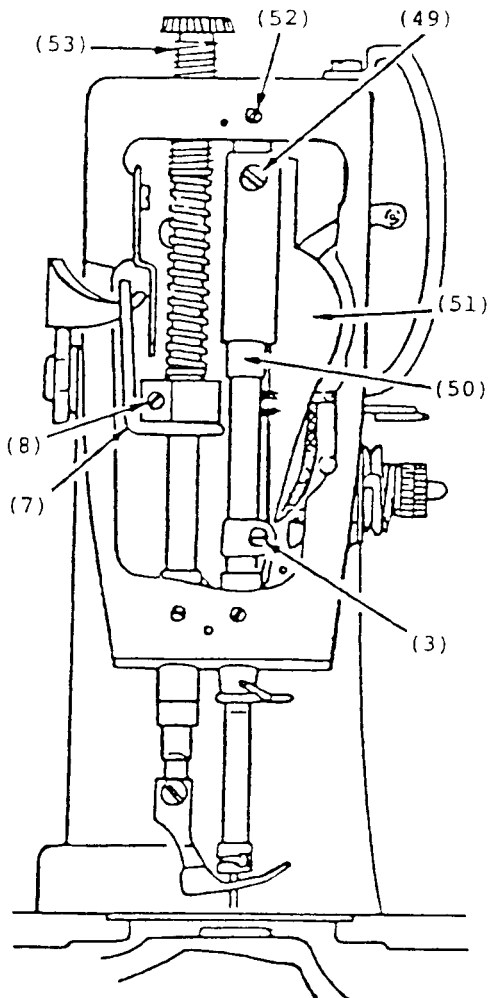

Fig. 24
TO REMOVE AND REPLACE THE NEEDLE BAR (See Fig. 24)
1. Remove presser foot, face plate and presser bar pressure regulating thumb screw (53), with presser bar guide from head of the machine.
2. Loosen clamping screw (8) about one turn (just enough to make it loose).
3. Slide presser bar up through lifting lever link (7), Fig. 24, and bushing and out of machine.
16. Replace presser bar pressure regulating thumb screw (53), Fig. 24.
18. Replace and securely tighten arm plug screws (54) and (55).